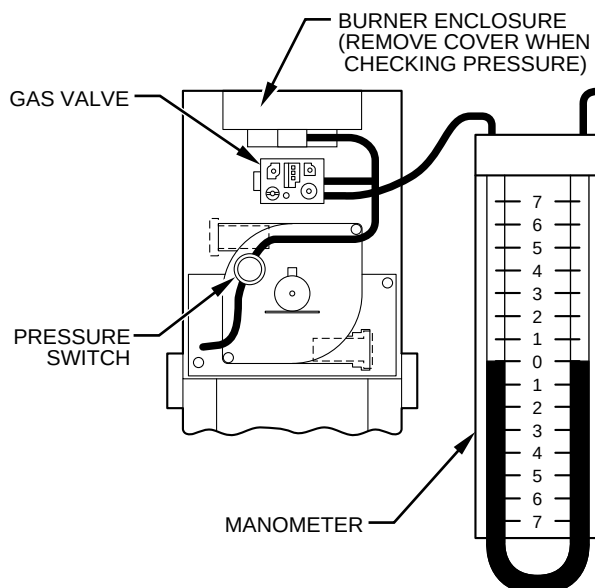

Fig. 13—Adjusting Manifold Pressure—Manometer Attachment
3. Attach manometer to inlet pressure tap on gas valve. (See Fig. 13.)